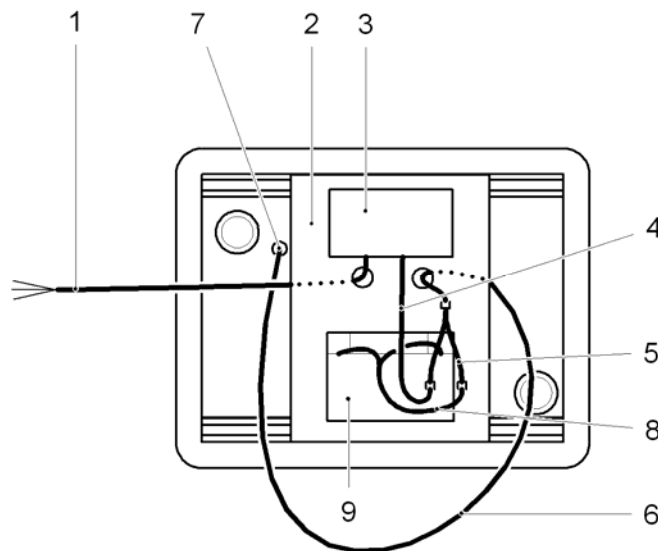

Figure 7-9 Fixed installation with battery and mains operation
The 230 V battery charger and the 12 V battery must be built into the battery box (Figure 7-9 Item 2).
- (1) Insert the battery cable from the battery charger (Figure 7-9 Item 4) and that from the battery (Figure 7-9 Item 8) into the two plugs with one cable feed each on the branched cable (Figure 7-9 Item 5).
- (2) Insert the pre-installed DFS 600 connector cable (Figure 7-9 Item 6) into the cable connector with two cable feeds.
- (3) Insert the M12 plug of the DFS 600 connector cable into the connection socket (Figure 7-9 Item 7) on the back of the DFS 600 and screw it tight.
- (4) Connect the mains cable (Figure 7-9 Item 1) from the battery charger (Figure 7-9 Item 3) to the mains – the DFS 600 is now powered up.
- (5) Perform a functional test of the display with a hand movement.